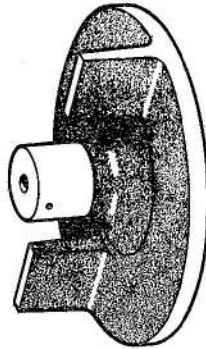

Fig. 7. Calibrated fan for motor torque test
- (1) The brushes must bed over their full width of arc with at least 80 per cent of their face area in contact with the commutator.
- (2) The motor is to be subjected to a torque of 9 oz. in. applied by means of the calibrated fans (fig. 7) or by a suitable dynamometer. With the motor running under load on applied voltage of 24V d.c. and 29V d.c. check that speed and current consumption are within the following limits:—